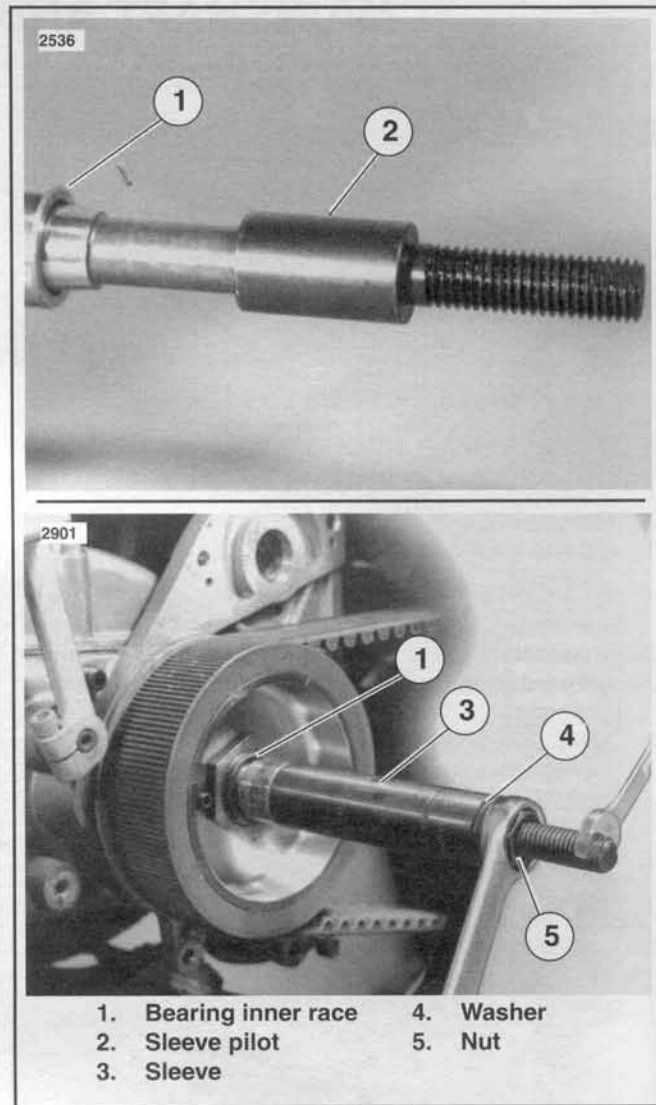

Figure 7-17. Install Bearing Race
4. See Figure 7-17. The bearing race must be positioned on the shaft a precise distance to properly align with the bearing outer race in the primary chaincase. To install the bearing inner race, use those parts of the combination bearing race; PULLER AND INSTALLATION TOOL, Part No. HD-34902A.
- a. Slide bearing inner race (1), chamfer edge first, onto mainshaft.
- b. Thread sleeve pilot (2) onto end of mainshaft (left hand thread).
- c. Position sleeve (3) over sleeve pilot (2) and against bearing race (1).
- d. Place washer (4) over threaded portion of sleeve pilot (2) and install nut (5).